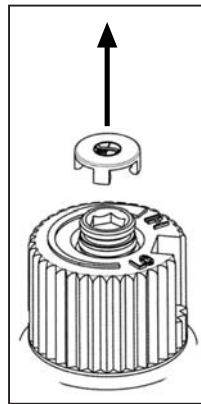

Figure 18: Removing valve cap.
- b) Remove the black protection cap from the HI/LO knob by hand shown in Figure 18.
- h) Re-attach the black protection cap that was removed in step a (Figure 18).